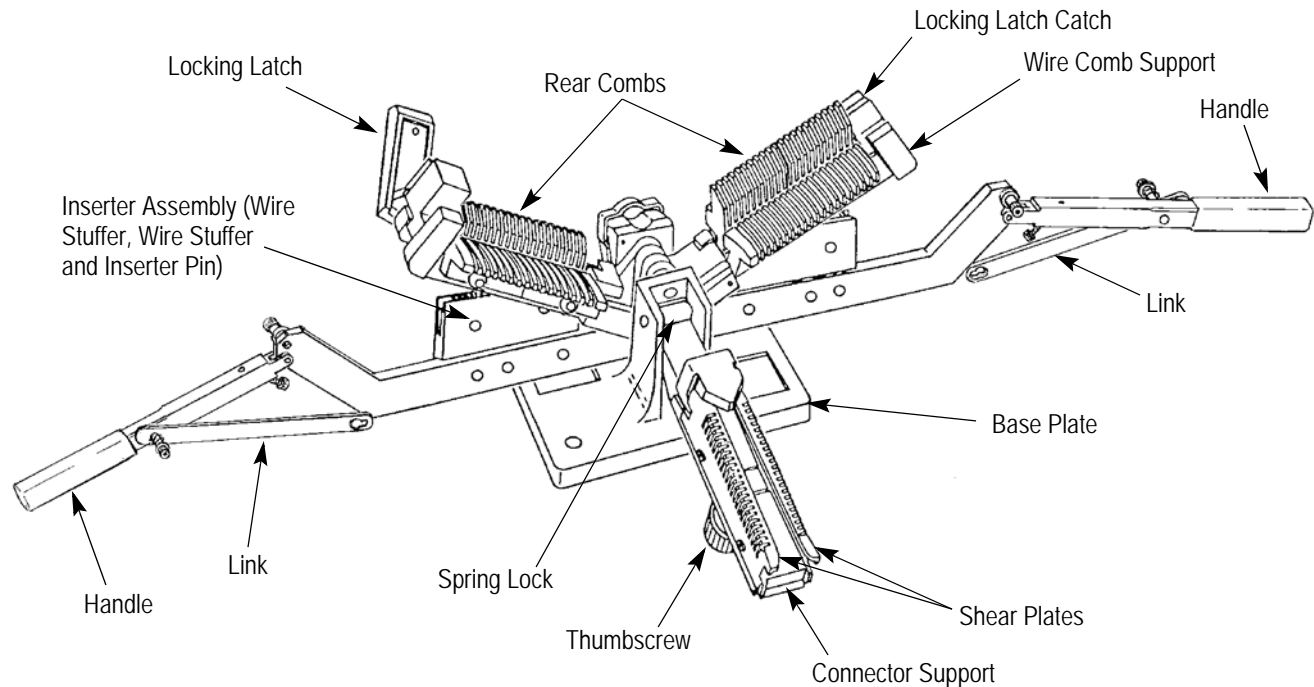

Figure 1
MI-1 hand tool 231880-2 contains a fixed wire comb feature and will produce a 90° cable dress. Each tool contains the following (Figure 1):
2. Push on the left side of locking latch until it snaps open, then push on the right side to open the latch completely. See Figure 1.